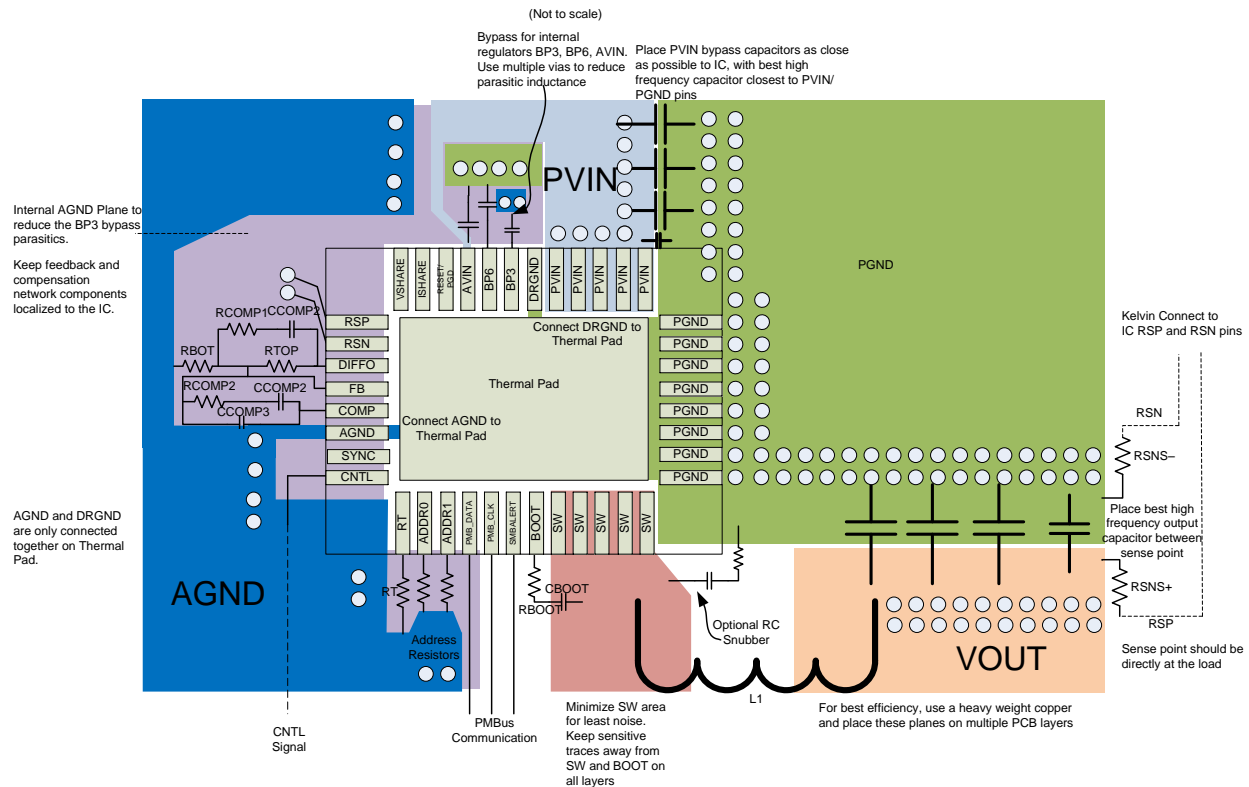

FIG 52. PCB Layout Recommendation
Layout is critical for good power-supply design. Figure 52 shows the recommended PCB-layout configuration. A list of PCB layout considerations using these devices is listed as follows:
- Keep signal components local to the device, and place them as close as possible to the pins to which they are connected. These components include the feedback resistors and the RT resistor. These components should also be kept away from fast switching voltage and current paths. Those components can be terminated to AGND with a minimum return loop or bypassed to the copper area of a separate low-impedance analog ground (AGND) that is isolated from fast switching voltages and current paths and has single connection to PGND on the thermal pad through the AGND pin. For placement recommendations, see Figure 52.
- The PVIN and AVIN pins must be the same potential for accurate short circuit protection, but high-frequency switching noise on the AVIN pin can degrade performance. The AVIN pin should be connected to PVIN through a trace from the input copper area. Optionally form a small low-pass R-C between the PVIN and AVIN pins, with the AVIN bypass capacitor (1 μ F) and a 0-2 Ω resistor between the PVIN and AVIN pins. See Figure 52 for placement recommendations.